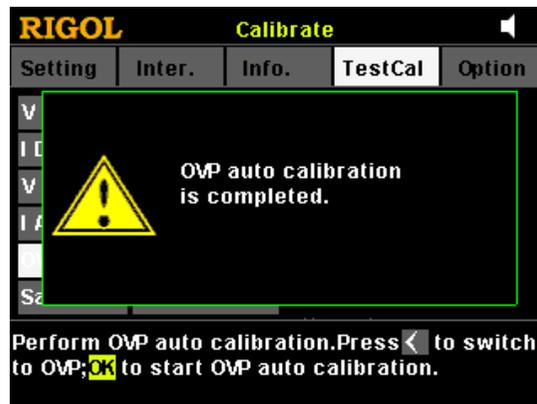

Figure 2-7 "OVP auto calibration is completed" Prompt Message
- (1) Ensure that DP711 has been warmed up for at least 30 minutes.
- (2) Enter the DP711 calibration page, and select "OVP", then press the Right arrow key. The cursor switches to ID of the first calibration point (there is only one calibration point for OVP calibration).
- (3) Press **OK**, and then the **On/Off** key on the front panel of DP711 is illuminated automatically. Then, the instrument starts to perform auto calibration for OVP.
- (4) After the calibration is complete, the backlight of the **On/Off** key is turned off automatically. Then, a prompt message indicating "OVP auto calibration is completed" is displayed, as shown in Figure 2-7.